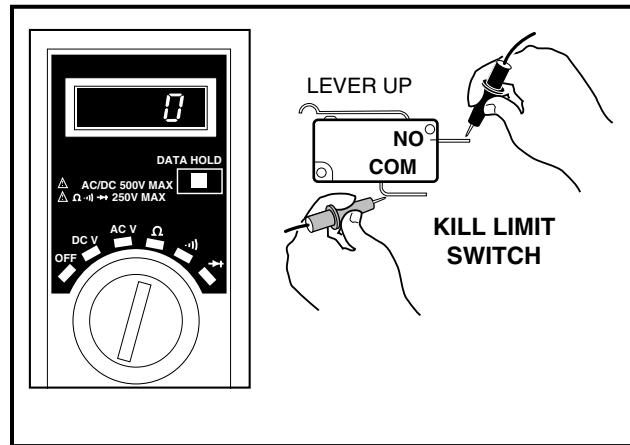

FIGURE 12-33
3. Place the red (+) probe of the multimeter on the common (COM) terminal (white/black wire) of the limit switch. Place the black (-) probe on the normally open (NO) terminal (black wire) of the limit switch. Without the lever depressed, the reading should be no continuity. Depress the lever, and the reading should be continuity. If either reading is incorrect, replace the limit switch (**Figure 12-33**).